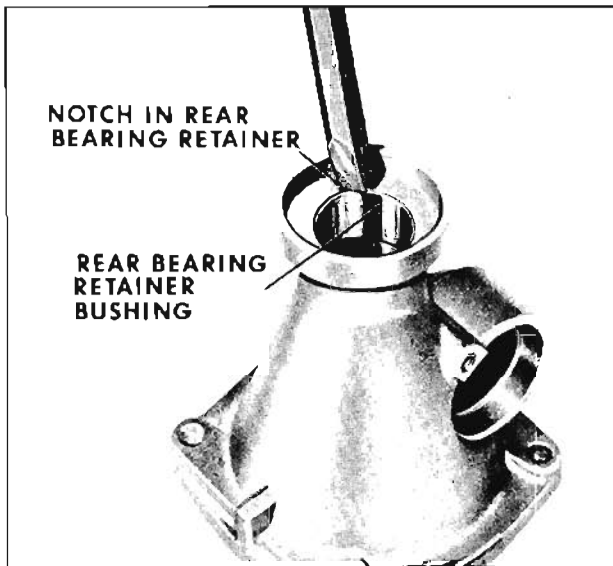

Fig. 6-451A Removing Rear Bearing Retainer Bushing
1. Remove the rear bushing as shown in Fig. 6-451A.